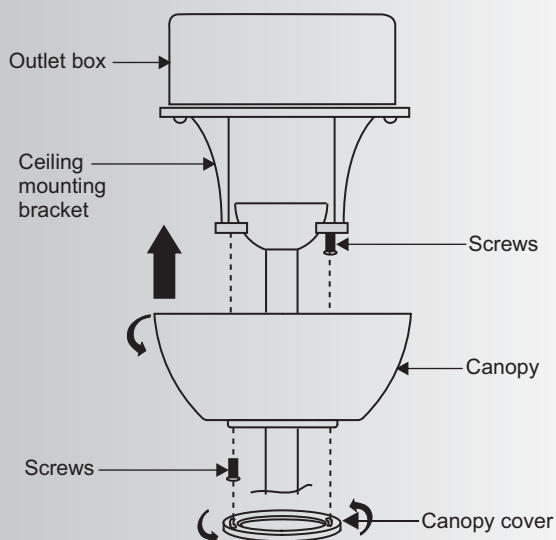

Fig. 16
Step 2. Slide the canopy up to the mounting bracket and place one of the key hole slots over the mounting screw on the mounting bracket. Rotate the canopy until the screw head locks in place at the narrow section of the key hole. See figure 16.
NOTE: Adjust the canopy screws as necessary until the canopy and canopy cover are snug. (Fig. 16)